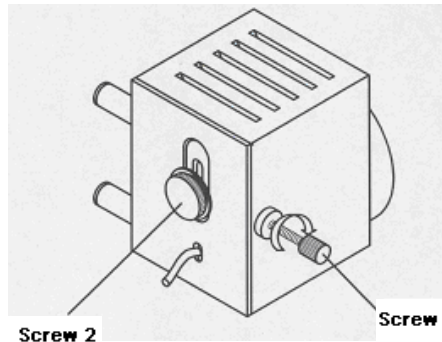

Figure 6-7 Adjust Screw to Make Even Light
7. Observe through the measuring microscope. Turn screw 1 clockwise to tighten it and adjust it to make the light in view field as even as possible (If necessary, you can adjust screw 2). Refer to Figure 6-7.